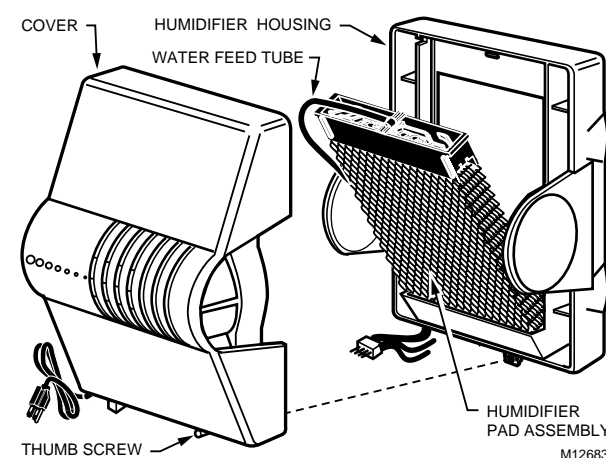

Fig. 3. Humidifier components.
5. Remove the humidifier pad and PerfectFlo™ water tray by grasping the tray and pulling it out of the housing. See Fig. 3.